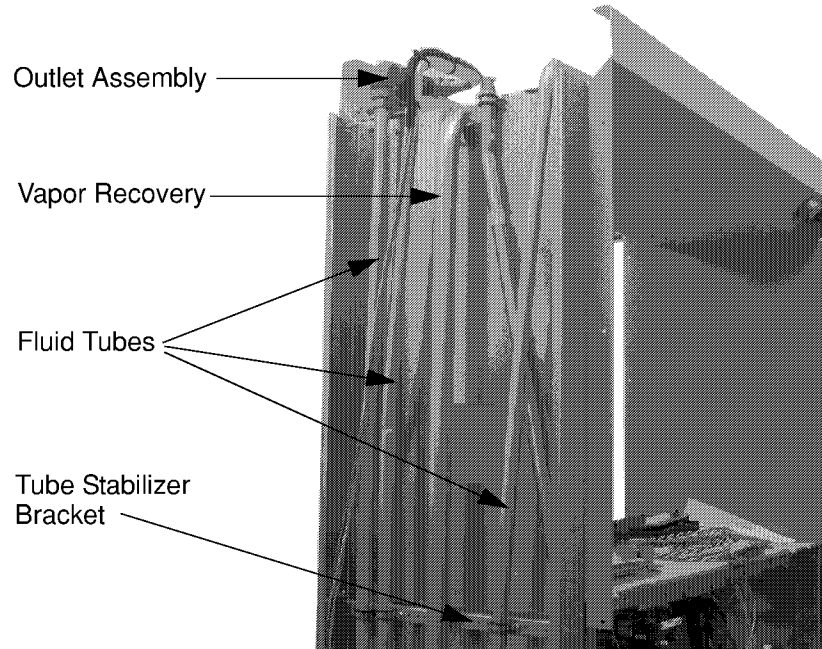

Figure 2-4 Upper Fluid Tubes - Left
2. Disconnect all upper fluid tubes from the outlet assemblies and solenoid valves, then remove. See Figures 2-4 and 2-5.